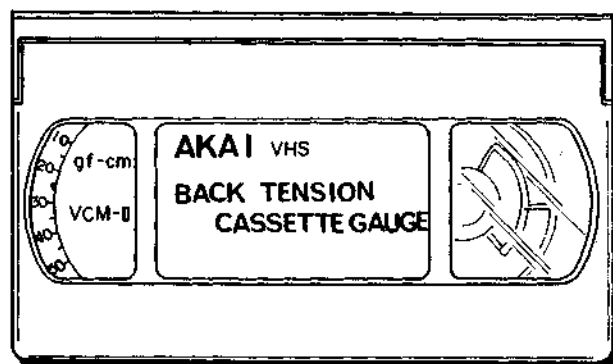

Fig. 111
- 1) Set the back tension adj. jig (BT-001) shown in Fig. 111 and achieve PLAY mode.